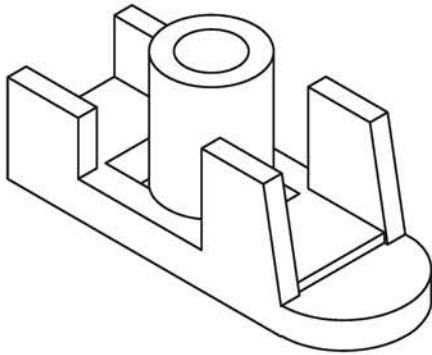
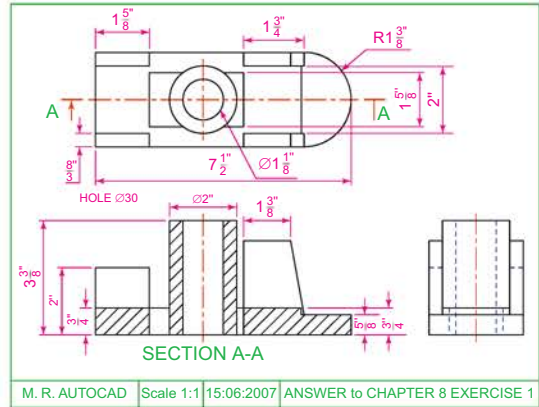

Fig. 8.34 Exercise 10 – a pictorial view
Fig. 8.35 Exercise 10
10. Fig. 8.34 is a pictorial drawing of the component shown in the orthographic projection Fig. 8.35. Construct the three views, but with the front view as a sectional view based on the section plane **A-A**.